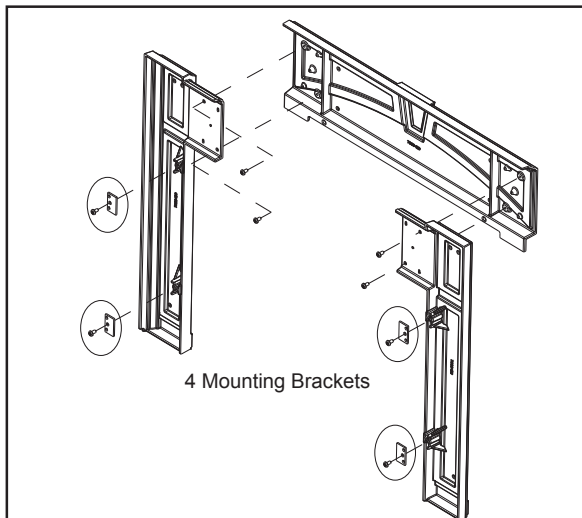

Figure 24.1
4. Attach the mounting brackets to the side pieces included with the kit. **Figure 24.1.**